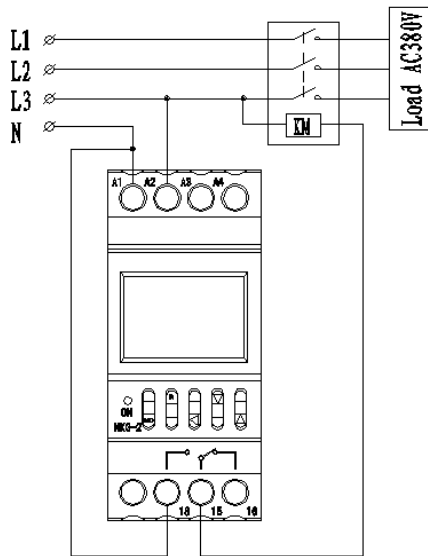

Figure 4 Three-phase controlled wiring diagram (220V for contactor coil)
- The coil voltage of the controlled contactor is AC 220V 50Hz, so its wiring method sees Figure 4;